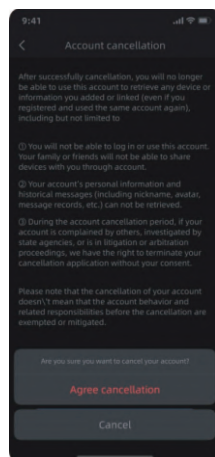

Figure 11
11) Figure 11: Click "**Agree cancellation!**" to cancel the account, return to the login page, and no longer be able to log in with this account;Click "**Cancel**" to keep the account.